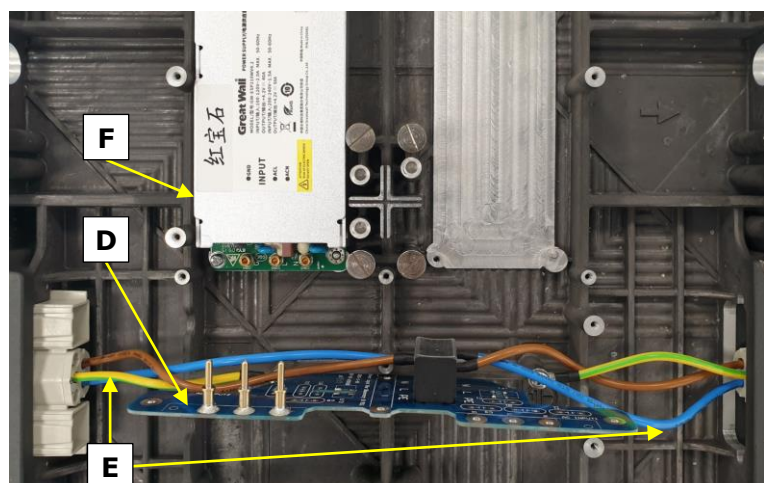
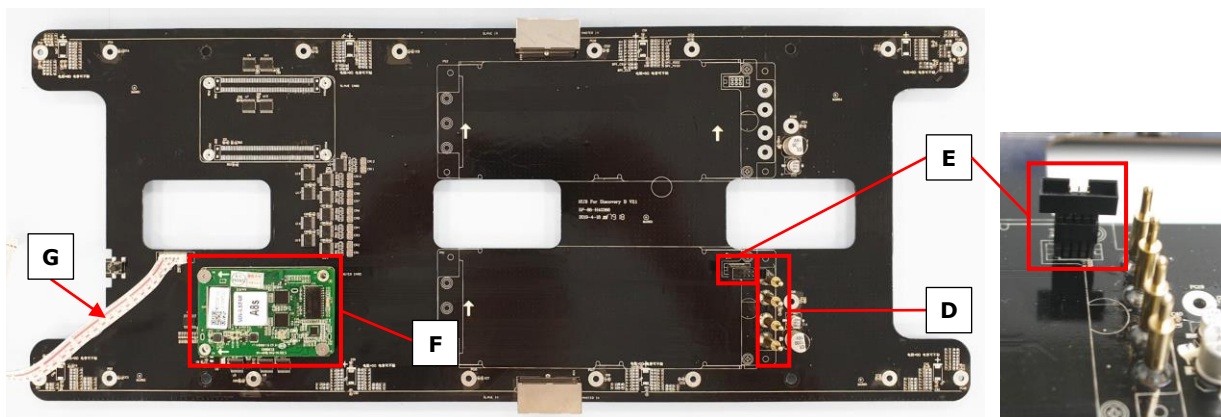

Figure 21: Sockets Wired to PDU behind Hub Board
Figure 27: Hub Board – Back
The sockets wire to the PDU (Figure 21, D) and ground (E) on the cabinet. The PDU, in turn, connects to the Power supply unit (F) via the hub board's power supply connector (see also Figure 27, D, p. 31).
The **backside of the Hub board** has several interfaces for data and power distribution (Figure 27):